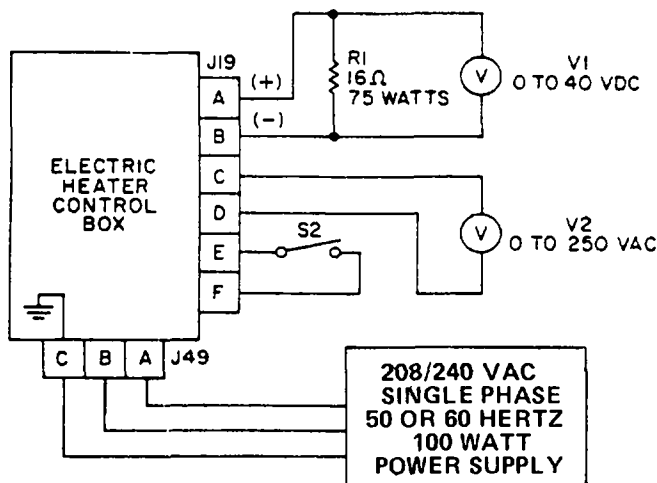

Figure 13-7. Electric Winterization Kit Control Box, Test Setup
(1) Connect control box to test equipment as illustrated in figure 13-7.
| 1. | Position heater control box switch to ON and apply 230 V ac. Close switch S2, refer to figure 13-7. | a. Heater control box indicator DS1 should illuminate. | Defective resistor R20. Defective indicator DS11. | Check resistor value which should be 2.47K ohms. Check indicator for continuity. There should be continuity. |